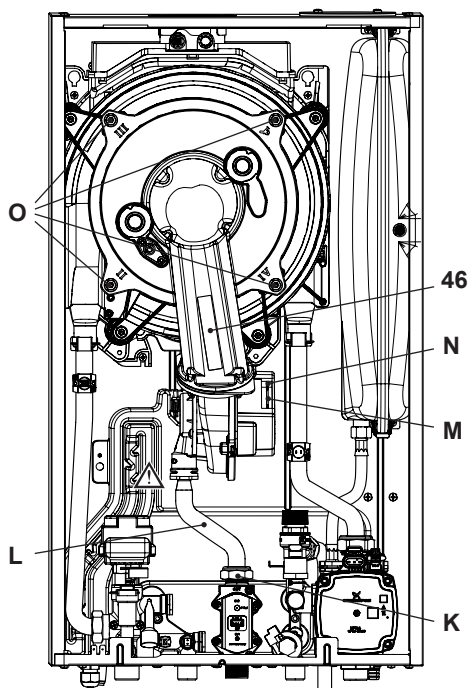

Fig. 10.13
Removing the fan burner unit 46 in Fig. 10.13.
- Disconnect the connector "M" by pulling it downwards (Fig. 10.13).
- Disconnect the fan connector "N" by pulling it downwards (Fig. 10.13).
- Unscrew screws "O" and remove the fan burner unit 46 (Fig. 10.13).